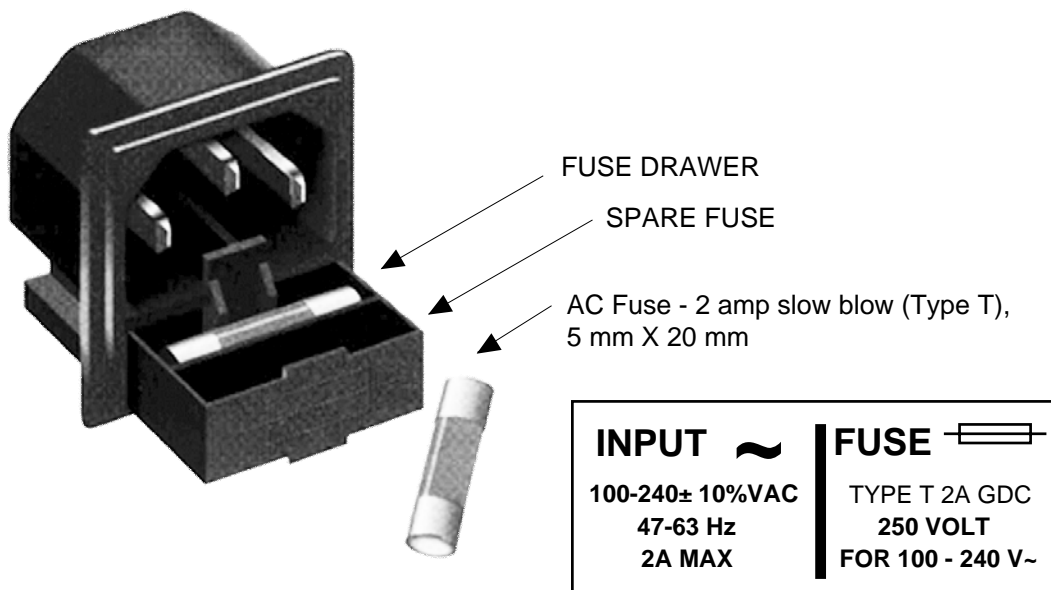

FIGURE 2.3 Fuse Location and Spare Fuse
8. AC Fuse - The fuse is a 5 mm X 20 mm, 2 amp slow blow (Type T) and is inserted in the far slot in the drawer below the AC input as shown in Figure 2.3. There is a spare fuse in the near slot.